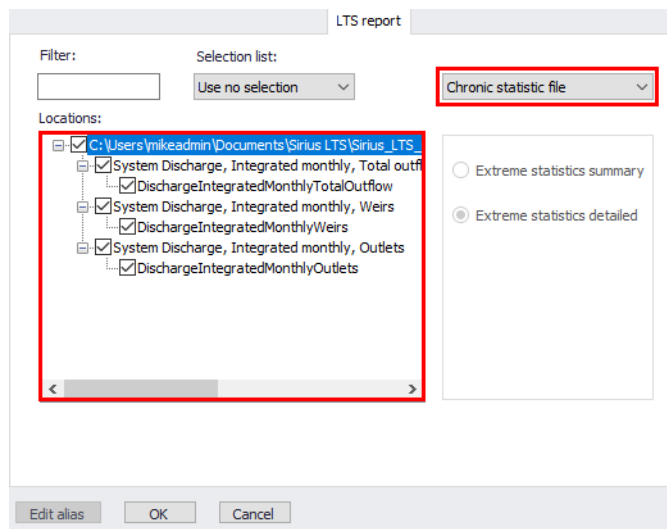

Figure 20.73 LTS chronological statistics report configuration
- Access the ‘LTS Report’ tab on the ‘Result Items’ dialog (Figure 20.73).
- Choose to generate a report with the ‘Chronological statistics file’ from the dropdown menu on the upper right side of the page (Figure 20.73).
- Select the items which shall be included in the report (Figure 20.73). Note that relevant items are offered on the Locations panel only if the appropriate LTS result file has been activated for the result document creation.